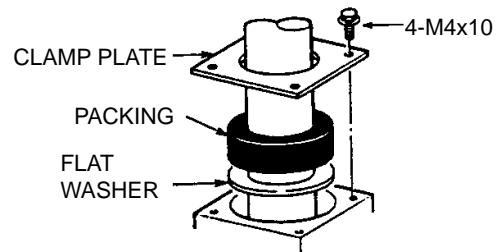

Figure 6-13 Passing the signal cable through the antenna housing
5. Connect the lead wires to RTB-9100 in the antenna housing by referring to the Interconnection Diagram. Fasten the ground washer at the bottom of the antenna housing as shown in Figure 6-13.
3. Now is the time to fix the radiator to the radiator bracket. Apply anticorrosive sealant (silicone sealant) to hatched areas, to prevent corrosion. See the figure below. Apply silicone sealant into threaded holes on the scanner radiator. Remove the cap on the radiator bracket and orient the radiator bracket as shown in Figure 6-13. Apply grease to the O-ring and set it to the center of the radiator bracket. Coat the radiator fixing bolts with silicone sealant. Fasten the radiator to the radiator bracket with the FURUNO logo on the radiator facing ship's bow.